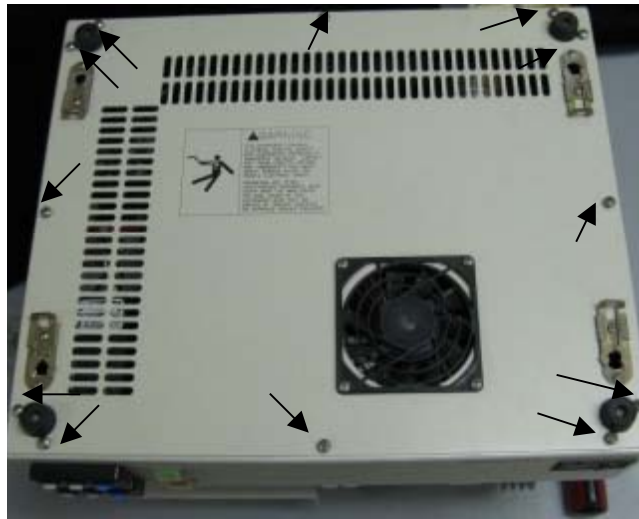

Fig. 1
- 3) Turn the unit upside-down and remove the (12) screws from the bottom cover using a #2 Phillips screwdriver. **Figure 1**